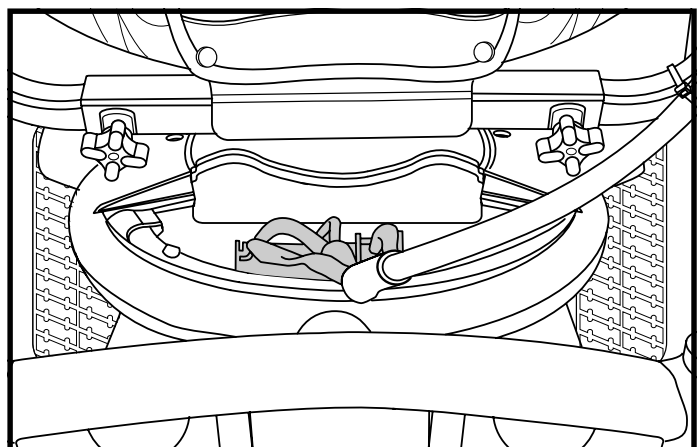

Figure 13. Then Place Battery Connector in Power Base.
8. Place the battery connector back into the power base. See figure 13.
18. Place the battery connector back into the power base. See figure 13.